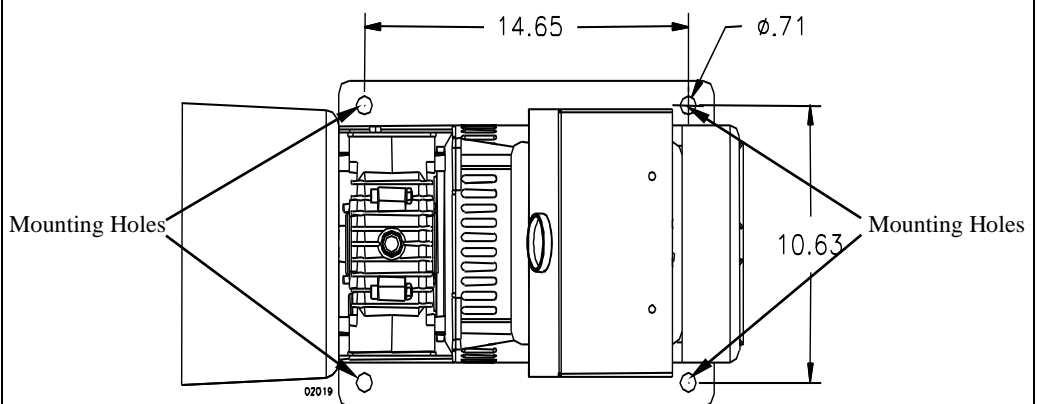

Figure 6
3. Bolt the generator to the trailer base using four, 5/8" grade 5 bolts. See the next section: "Mounting to a concrete slab", Figure 6.